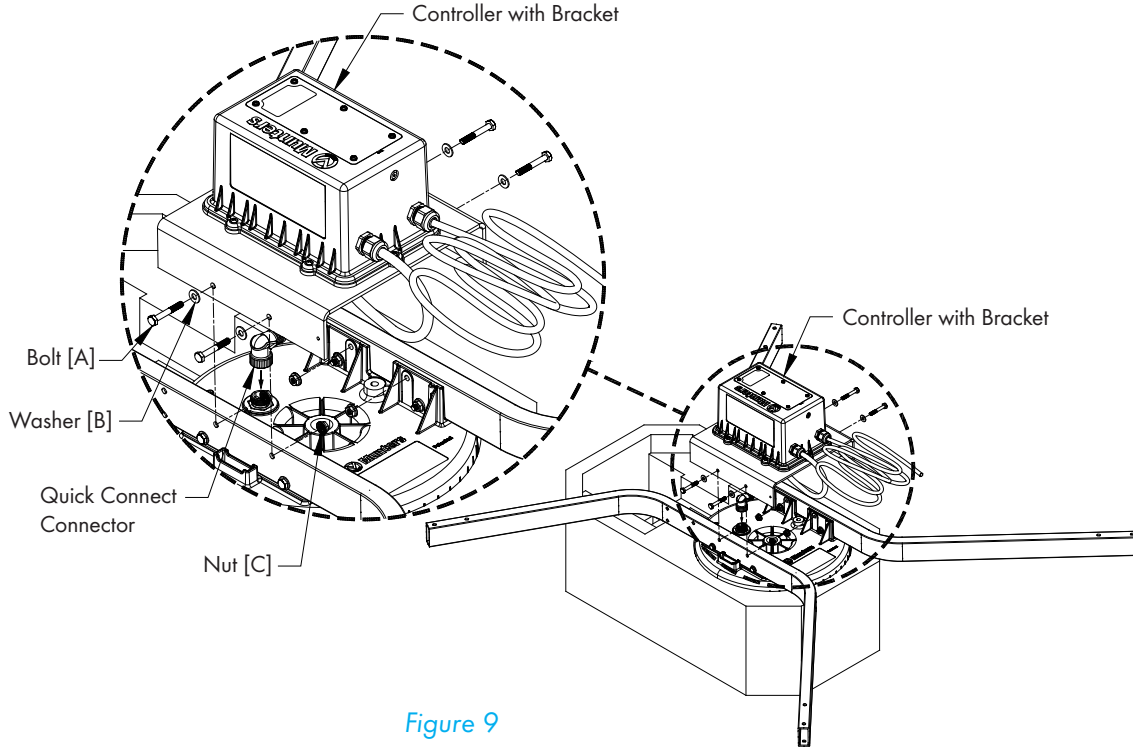

Figure 9
Retrieve the Munters Drive Controller and connect the Quick Connect Connector to the Motor. Slide the Controller with bracket over the struts so that the 2 remaining holes in each strut line up with the holes in each side of the Controller bracket and fasten with (4) Bolts [A], Washers [B] and Nuts [C]. See Figure 9.